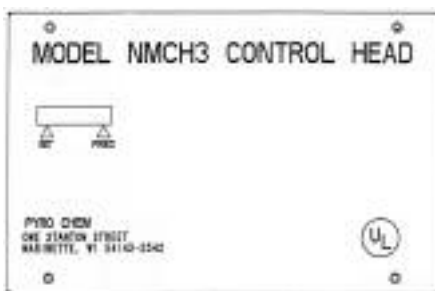

Figure 2-6a. Mechanical Control Head.
- ▶ mechanical or electric shut-off valve. A micro switch (Model MS-SPDT, MS-DPDT, MS-3PDT, or MS-4PDT) can be ordered separately and field installed. There is no local manual actuation for the Model NMCH3. The Model NMCH3 control head can actuate a maximum of five (5) cylinders. See **Figure 2-6a**.